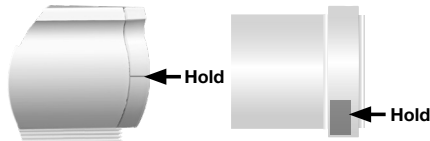

Fig. 11
3. Press and hold the program button on the headrail/motor end, and release when the LED flashes green (about three seconds). The shade will jog and all LEDs will turn off. The shade will now operate from the newly added remote. (Fig. 11)